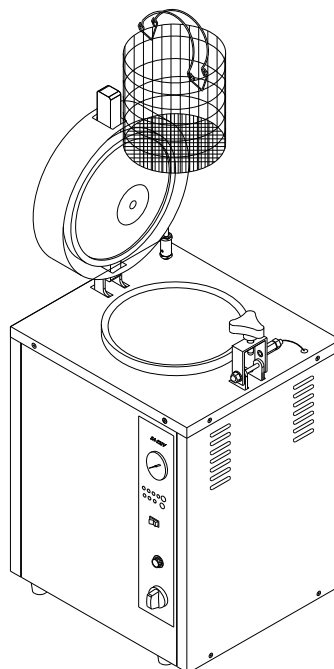

Figure 6
D. Install the Sterilization basket as Figure 6.